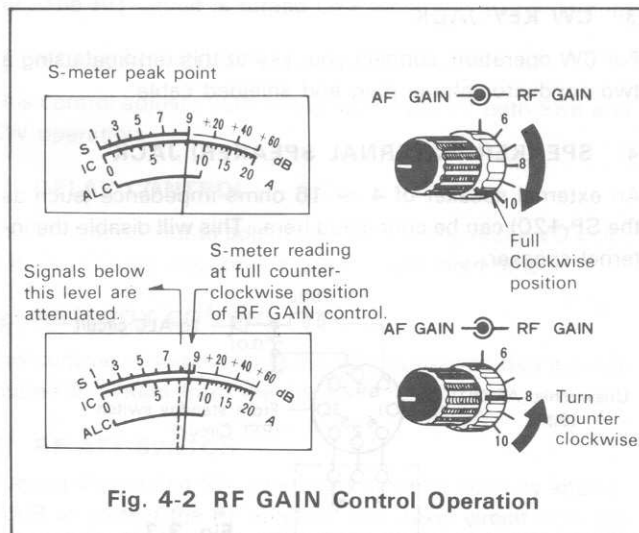

Fig. 4-2 RF Gain Control Operation
4.1.3. RF GAIN CONTROL (Fig. 4-2)